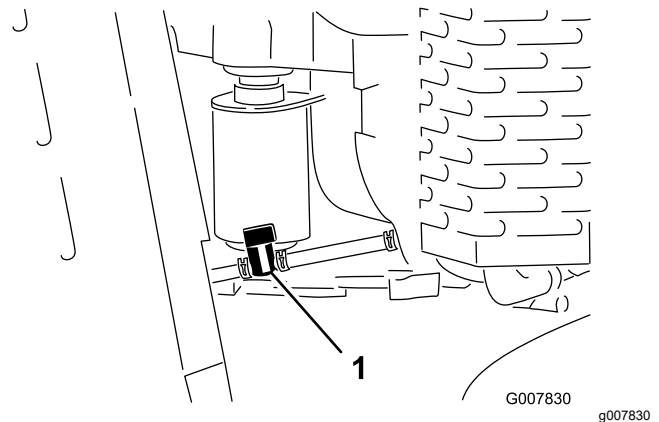

Figure 41
3. Turn the fuel-shutoff valve to the closed position (Figure 41).
4. Squeeze the ends of the hose clamp on the engine side of the valve together and slide it up the fuel line away from the valve (Figure 41).
5. Pull the fuel line off the valve (Figure 41).
3. Turn the fuel shutoff valve to the closed position (Figure 41).
7. Turn the fuel shutoff valve to the open position (Figure 41).